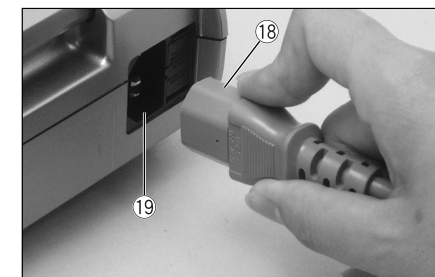

Fig. 5
Insert the Power Cord ⑱ plug into the Power Connector Assembly ⑲ on the back of the control unit securely and carefully align the pins. (Fig. 5)